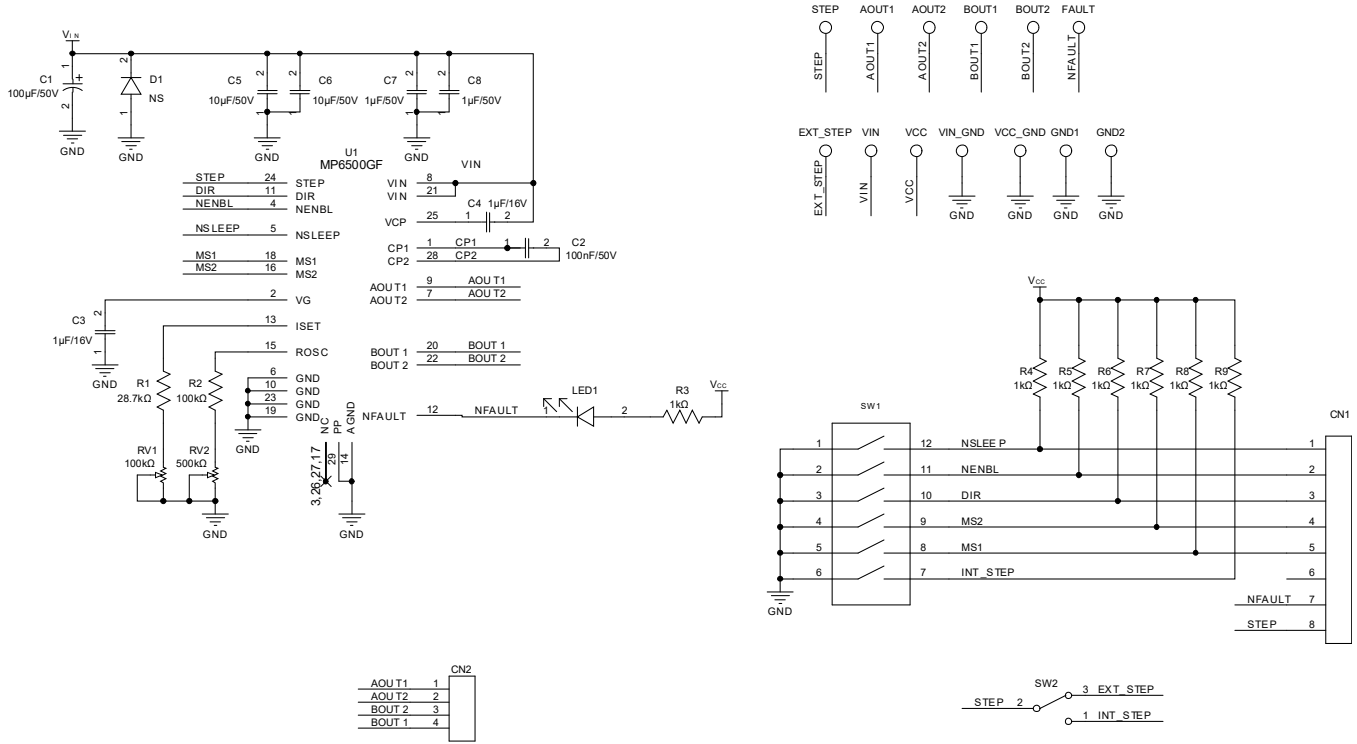

Figure 1: Evaluation Board Schematic
2. Switch SW2 to the top side (Terminal 3 in Figure 1 on page 3) to enable the external step signal input from the EXT\_STEP connector.